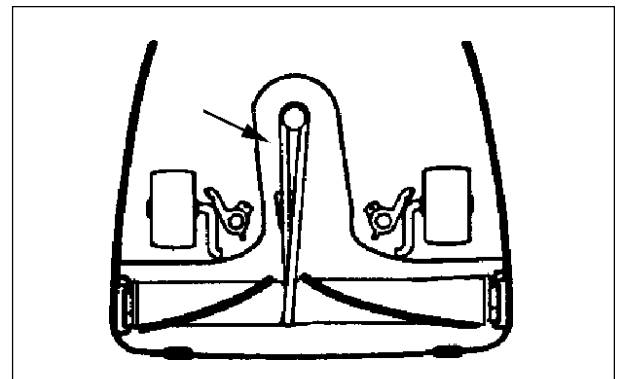

Figure 7
- Place the lower side of the belt into the belt guide and around the left side of the motor pulley. See figure 7.